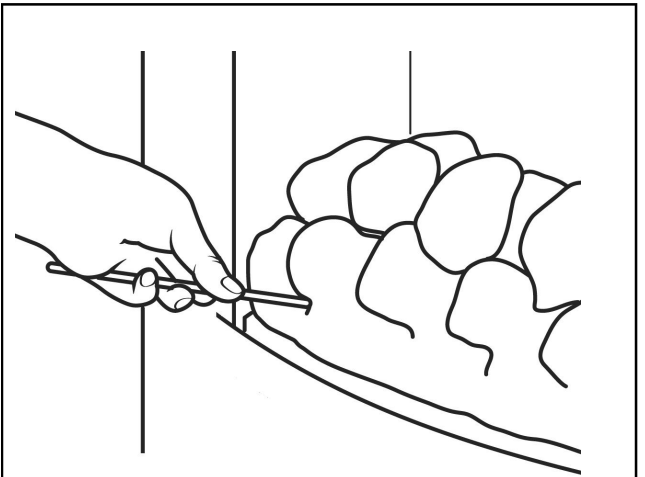

Figure 2. Lighting with a taper (The ceramic fuel effect may differ from that shown)
- If the spark ignition fails, the fire can be lit manually by inserting a lighted taper through the ceramic fuel effect at the front left side (as shown in figure 2) and depressing the control knob at the "PILOT/IGN" position. Ensure that the fan is on.